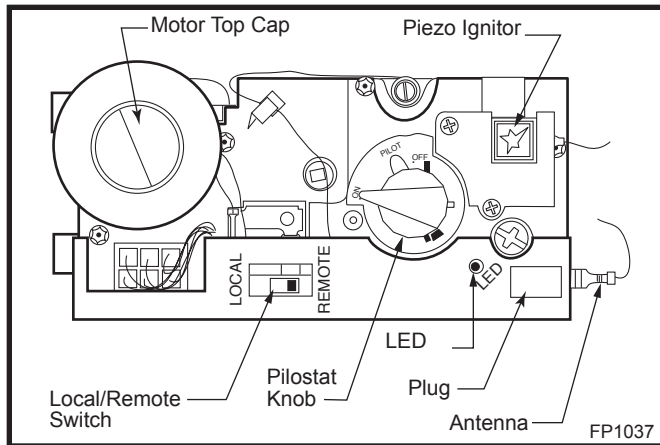

Fig. 62 Comfort control valve.
1. If the manual switch is in remote position, switch it to LOCAL. (Fig. 62)